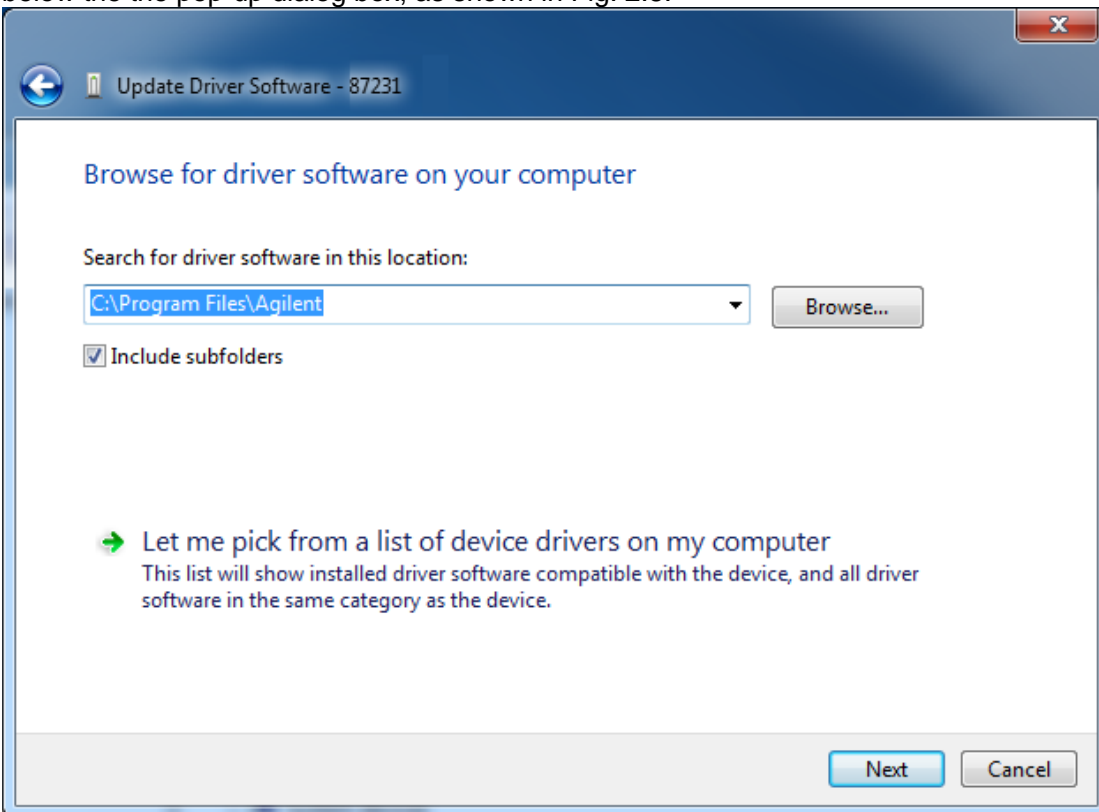

Fig. 2.8 Update Driver Software 2
Step 2: After that, continue to select the “Let me pick from a list of device drivers on my computer” option below the the pop-up dialog box, as shown in Fig. 2.8: